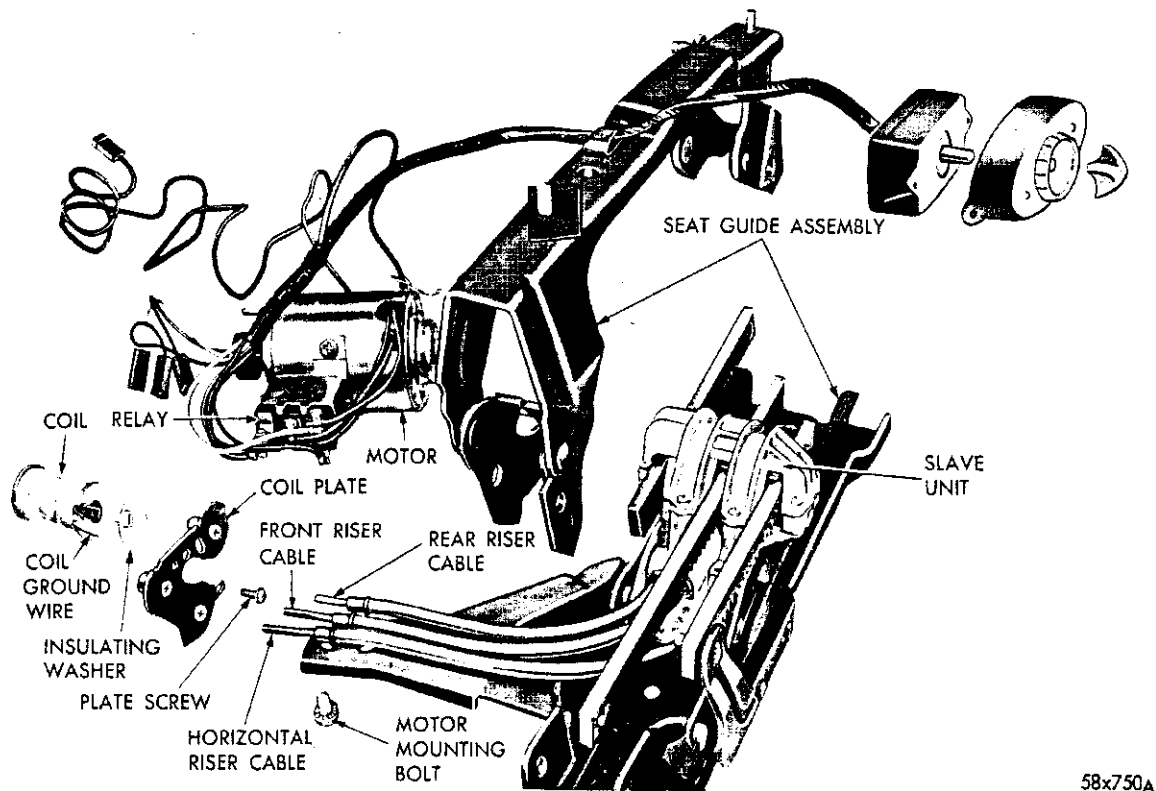

Fig. 104—Seat Track and Motor (Disassembled View)
- (1) Remove the drive unit from the seat assembly. Refer to, "Removal and Installation of Flexible Cables".
- (2) Remove the two screws holding the plate and solenoids to the drive unit (Fig. 104).
- (3) Remove the plate and solenoid assembly. Be careful not to lose the three springs under the solenoid.
- (4) To remove the solenoid coils, bend back on the tabs of the solenoid cover. Unsolder the coil ground wire at the cover tab and remove the coil cover from the coil.
- (5) Remove the screws holding the cover on the drive unit.
- (6) Remove the cover and lift out the clutch lever and shaft.